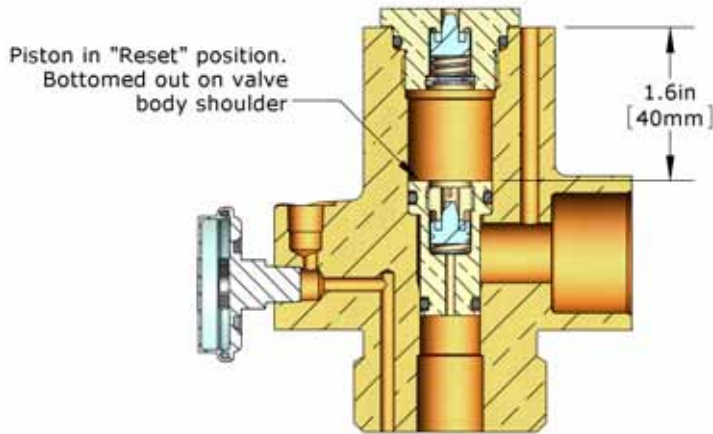

Figure 5-9. Valve Reassembly
Refer to Figure 5-9, and reassemble the valve by performing the following steps in the order indicated:
1. Install the piston into the valve body with the piston cap facing up. Push down on the piston until it bottoms out. In the "Reset" position, the top of the piston should be approximately 1.6 inches from the top of the valve body as shown in Figure 5-9.
Ensure that the piston is seated completely or an accidental discharge could occur while pressurizing. Refer to Figure 5-9.